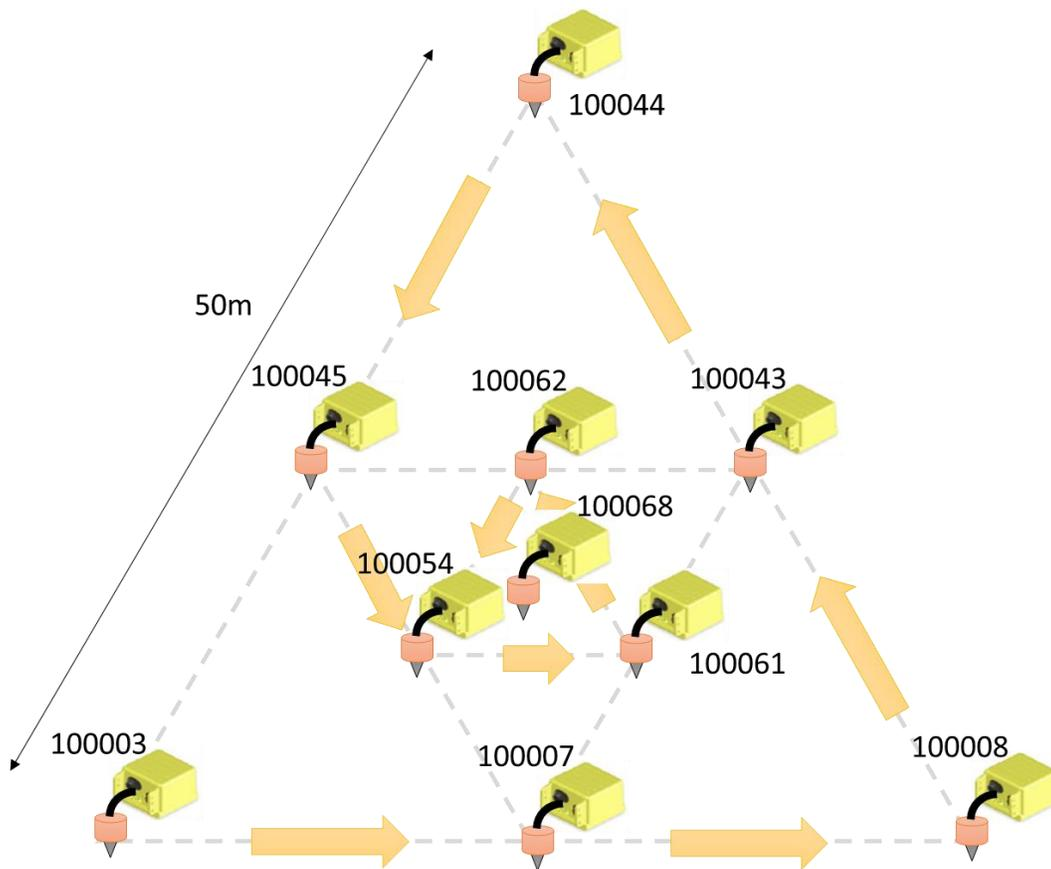

Figure 21.1 Nested triangles of 10 receivers.
1. Nested triangles of 50 m with 10 receivers recording ambient noise (Figure 21.1).